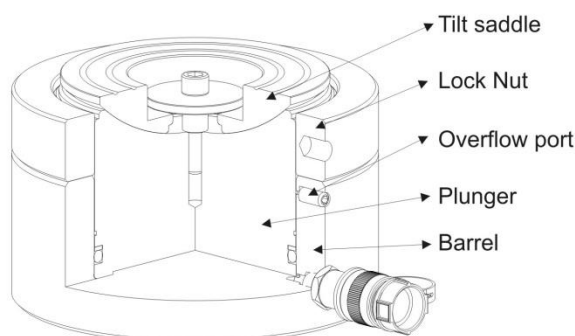

Figure 2 – RPLC Series Sectional Drawing
4.5 Remove air from the system – Position the cylinder so that the piston rod is pointed down and the cylinder is lower than the pump. Advance and retract the cylinder several times, avoiding pressure build-up. Air removal is complete when the cylinder motion is smooth (see Figure 2).